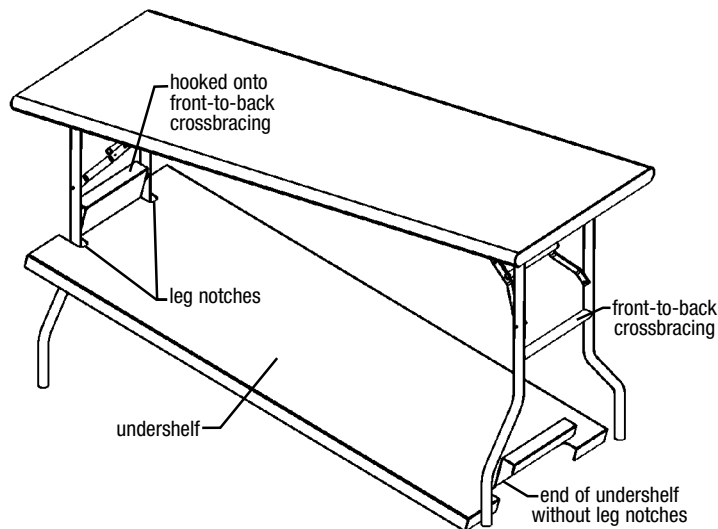

figure 1
- Raise the end with leg notches upward and hook onto front-to-back crossbracing, as shown in *figure 1*.
- Unhook the end without leg notches and lower, as seen in *figure 1*.